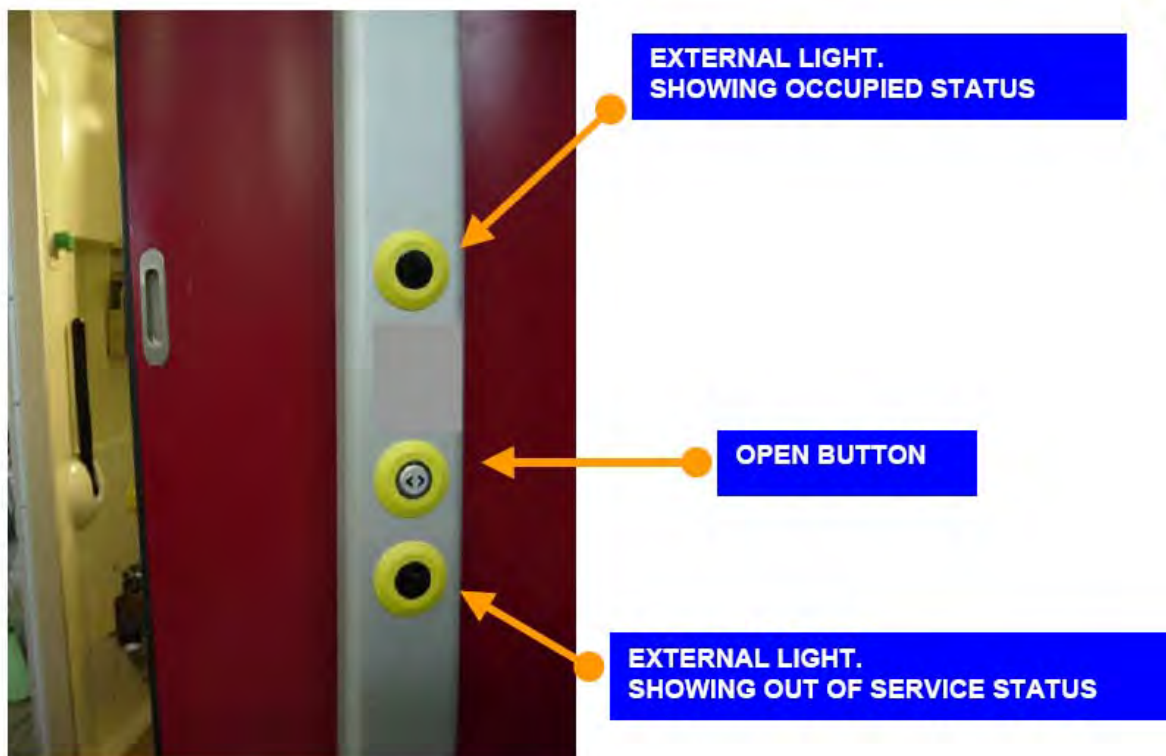

Figure 3: External Pushbutton and Indicators
- 3.1 Check the door is locked and cannot be opened manually. Check that the exterior out of service light is illuminated (see Figure 3).
- 6.1 Press the external “open” pushbutton (see Figure 3).